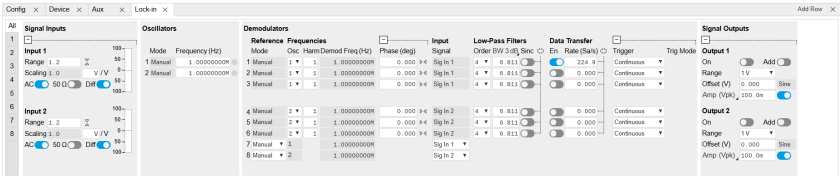

Figure 5.10: LabOne User Interface Lock-in tab - Parameter table (All)
The parameter table (see Figure 5.10 on page 94) consists of 4 vertical sections: Signal Inputs, Oscillators, Demodulators and Signal Outputs. The Demodulators sections gives access to all the settings of demodulators 1 to 6 that can be used for measurement, and of demodulators 7 and 8 that can be used for external referencing. Demodulators 1 to 3 (4 to 6) are connected to Signal Input 1 (2).